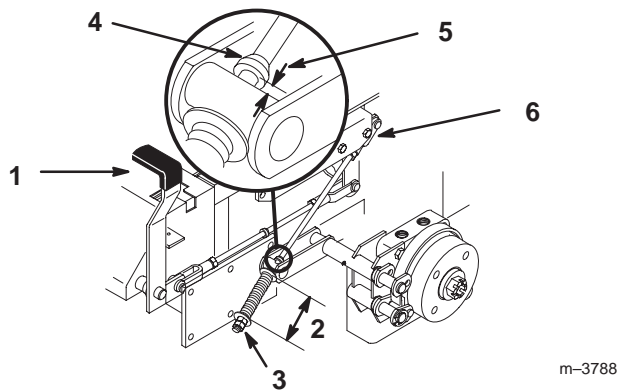

Figure 58
2. Measure the length of the spring. Measurement should be 2-3/4 inch (70 mm) between washers (Fig. 58).
3. If adjustment is necessary, loosen the jam nut below the spring and tighten the nut directly below the yoke (Fig. 58). Turn the nut until the correct measurement is obtained. Tighten the two nuts together and repeat on opposite side of unit.
- A. Measure the distance between the trunnion roller and the collar on brake rod. The measurement should be 3/16-1/4 inch (5-7 mm) (Fig. 58).
6. If adjustment is necessary, loosen the jam nut directly below the yoke. Turn the bottom rod until the correct measurement is obtained (Fig. 58). Tighten jam nut at yoke